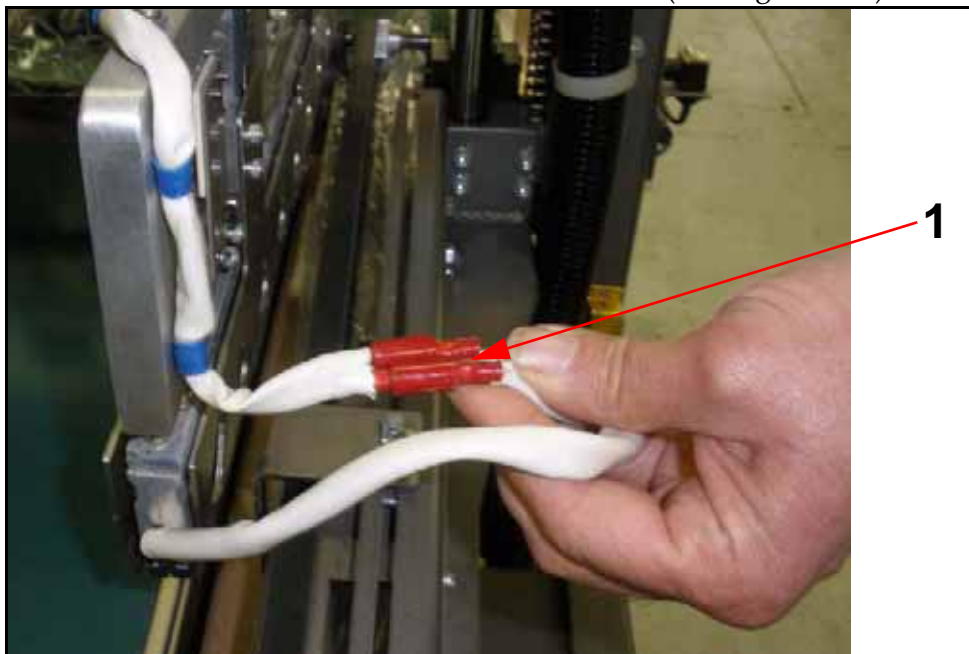

Figure 7-17. Heater Element Terminals
- 4 Disconnect heater element terminals (1 in Figure 7-17).